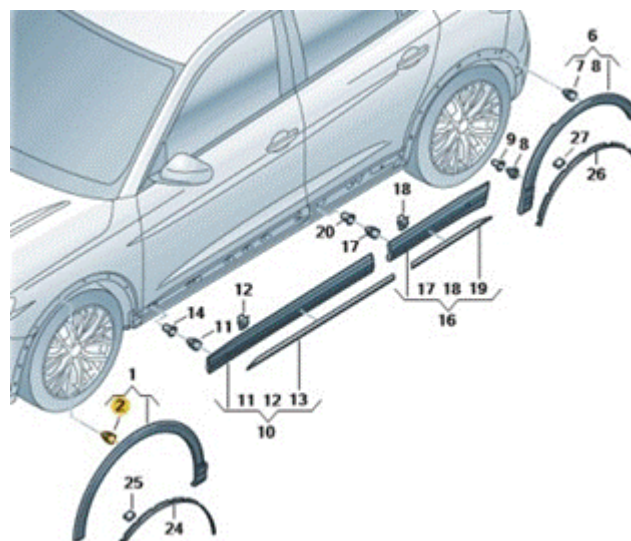

Figure 5. Front wheel arch trim clip location.
2. Replace all of the clips on the affected front wheel arch trim. The wheel arch trim does not need to be replaced (Figure 5).